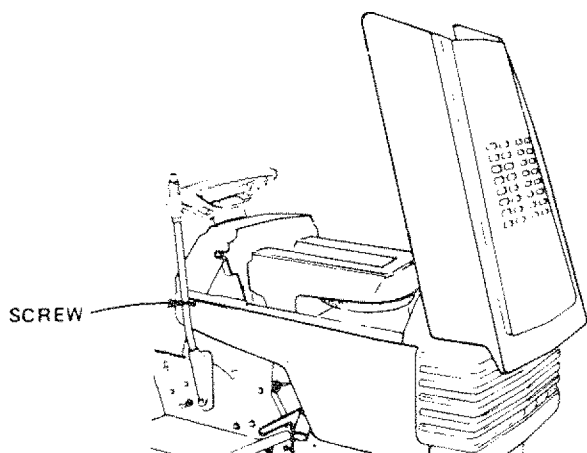

FIGURE 36
- Unscrew one screw at rear of each side panel (Fig. 36).